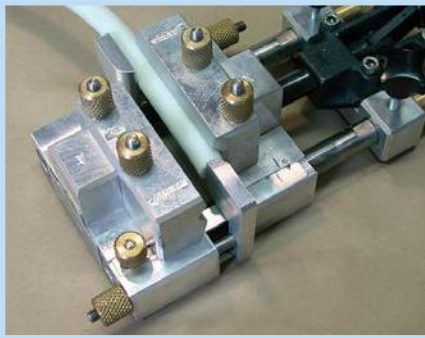

Fig. 30
1. Position one end of the belt in the "X" die, so that it contacts the belt clamp (Fig. 30). Press the belt onto the X Die so the tape sticks.